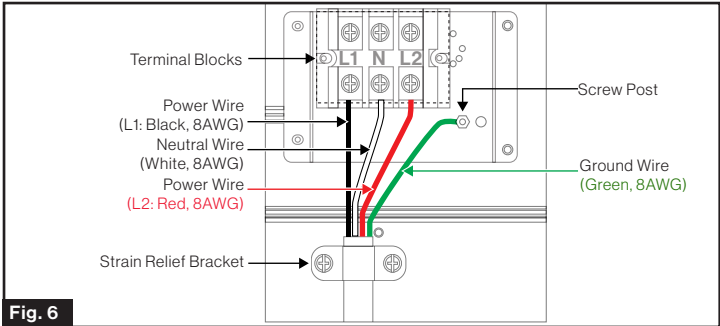

Fig. 6
- Refer to Fig. 6 for 4-wire connection guidance.
- Neutral is the White power wire. Attach to the middle (N) terminal.
- Ground is the Green power wire. Attach to the screw post (See Fig 6).
8. Refer to Fig. 6 for 4-Wire connection guidance.